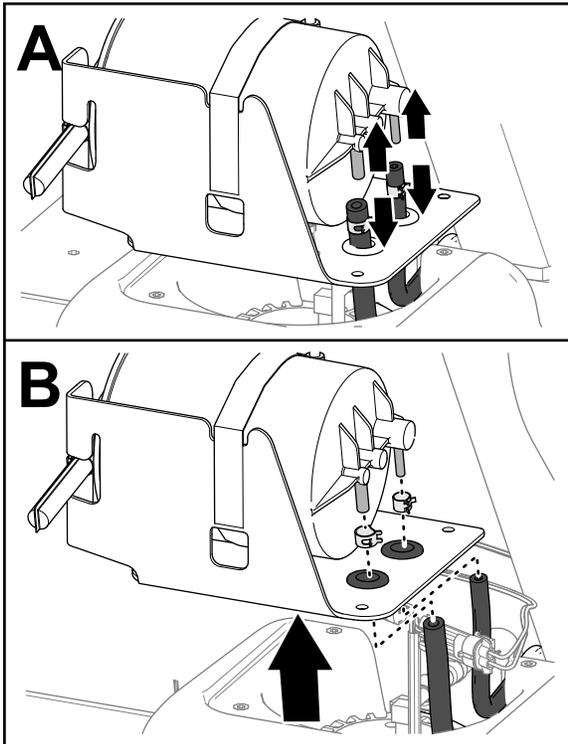

Figure 82
4. Separate the hoses from the fittings (Figure 82).
5. Remove the hose clamps from the hoses (Figure 82).
6. Remove the carbon canister from the fuel tank (Figure 82).